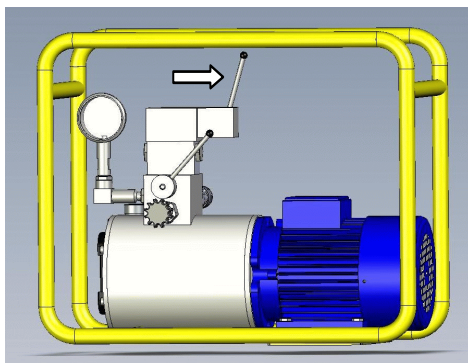

Figure 21
- ③ Bring the pipes towards the trimmer by means of the joystick lever. *Figure 21.*
- ④ Trim both pipe ends until the shavings obtained come out in continuous fashion on both sides.